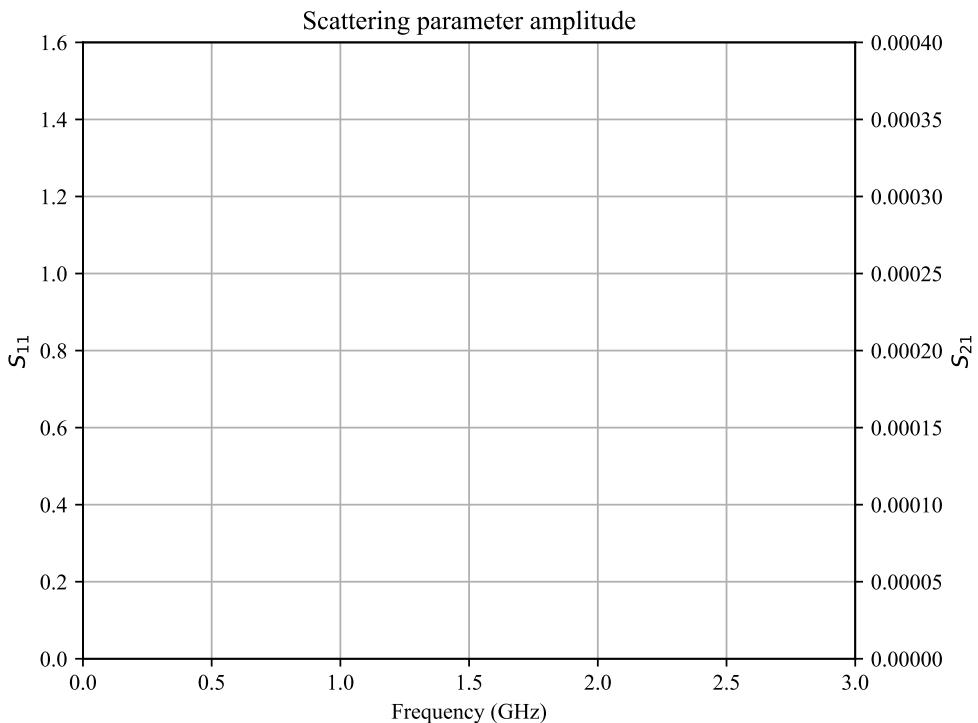

Figure 7: Scattering parameters, both ports calibrated (to be completed).
14. (Lab) Sketch $|S_{11}|$ and $|S_{21}|$ in fig. 7.